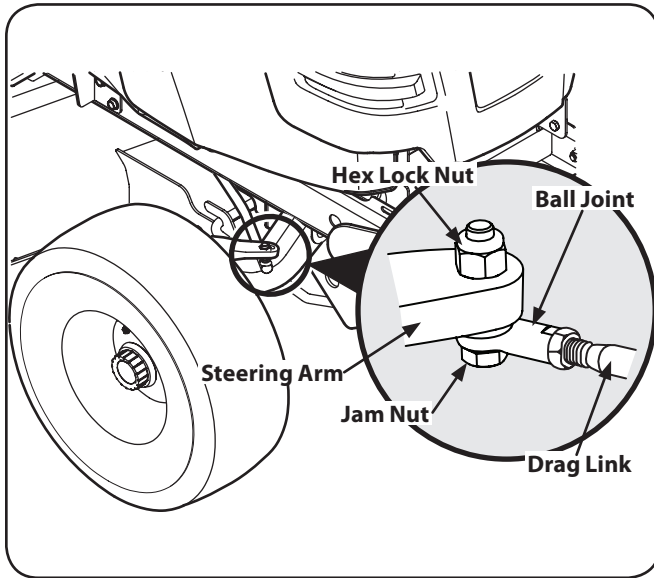

Figure 6-7
- Loosen the jam nuts from the ball joints. See Figure 6-7.
- Disconnect the front ball joints from the steering arms by removing the hex lock nuts. Refer to Figure 6-7. Manually move each wheel to achieve the required toe-in and equal D measurements.